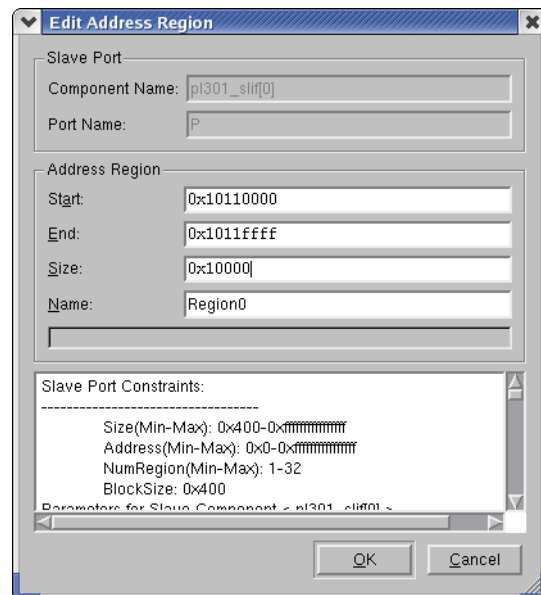

Figure 4-13 Address map for slave 0
5. Enter 0x10000 in the Size field, as Figure 4-13 on page 4-15 shows.